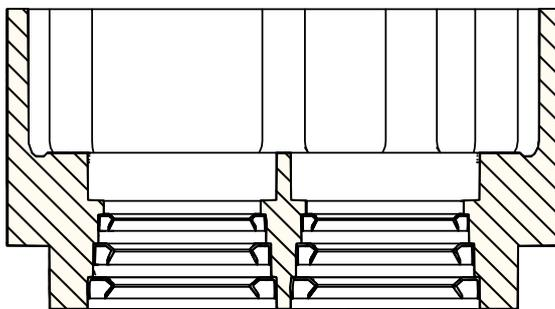

Fig. 12.2
- Pack/fill all cavities of lipseals with grease. See Fig. 12.2